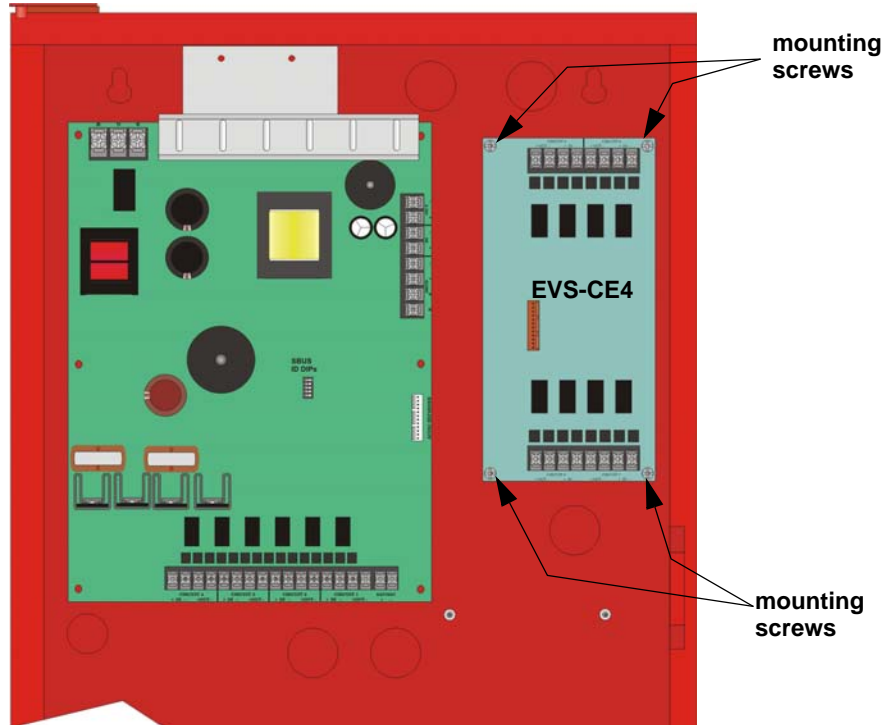

Figure 4.47 Mounting the EVS-CE4
1. Using the four supplied screws mount the EVS-CE4 in the EVS-50W or EVS-125W cabinet as shown in Figure 4.47.